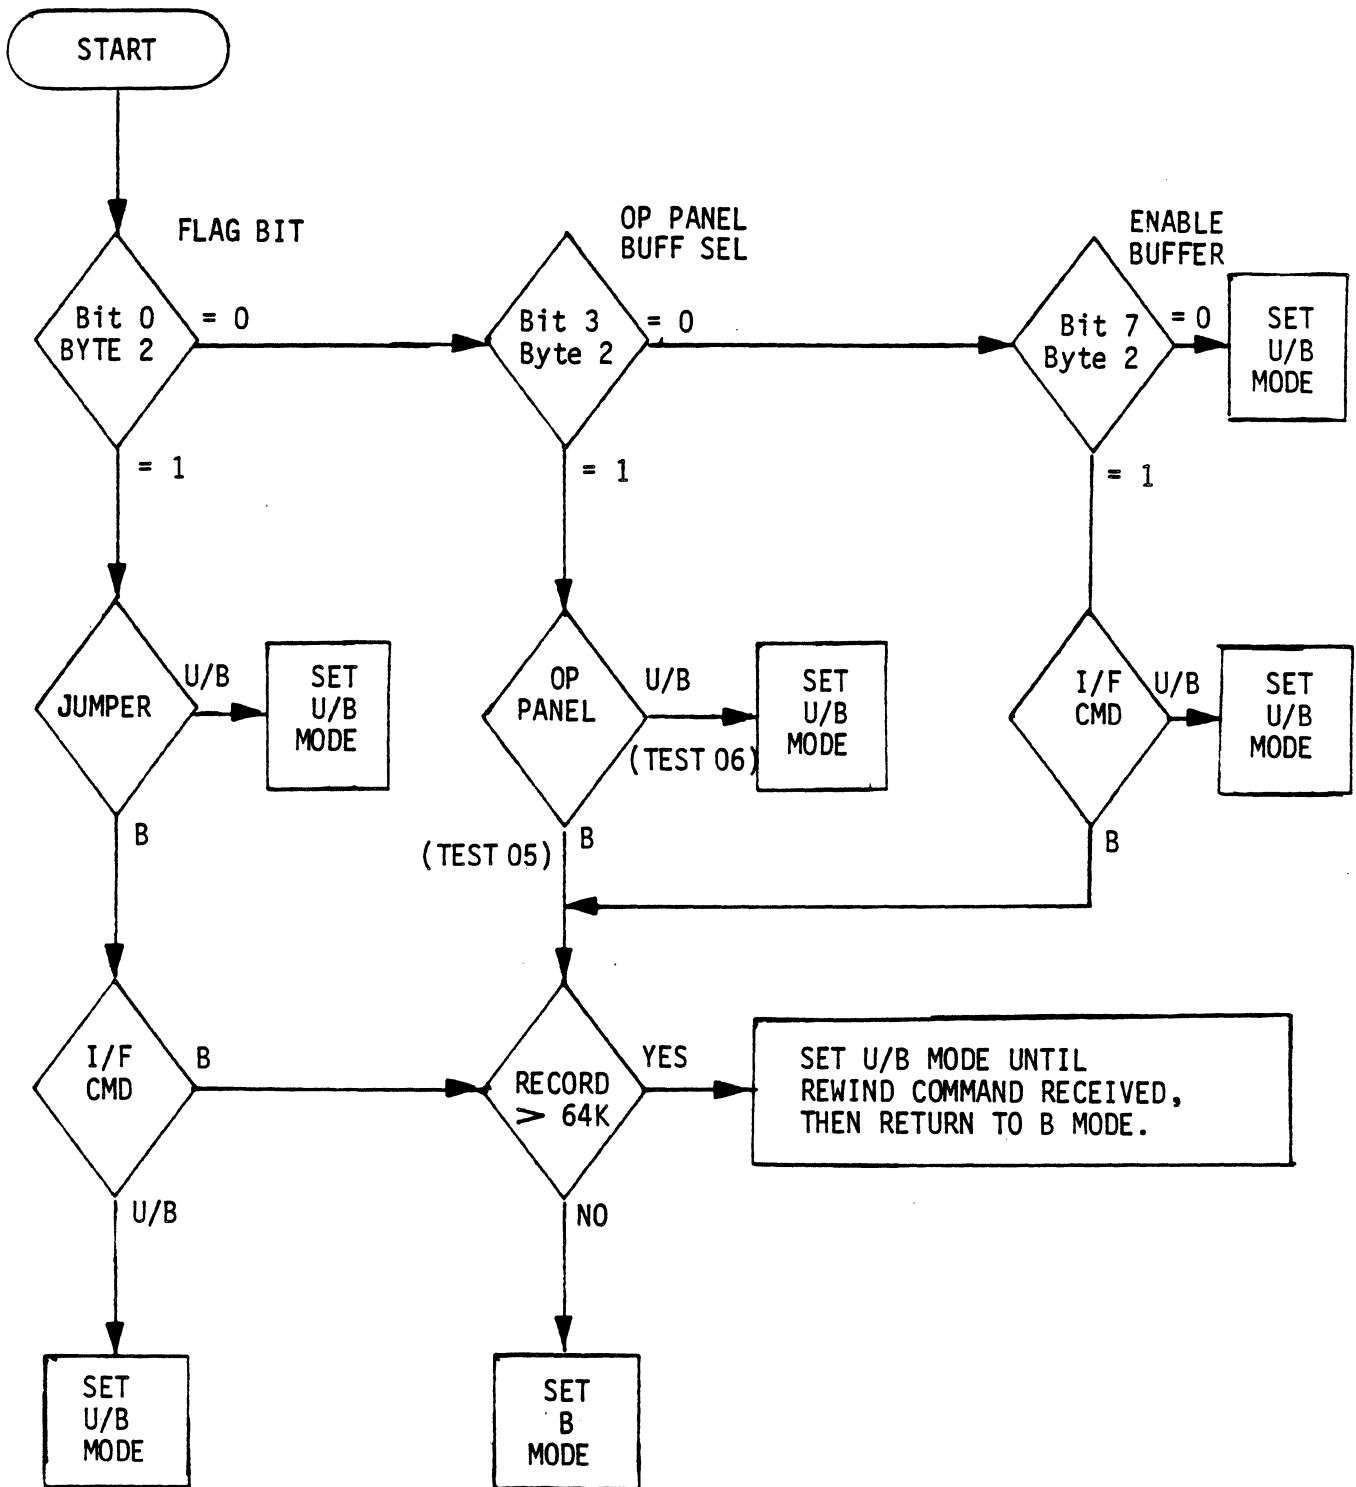

Figure 6-5B. Setting Buffered (B) or Unbuffered (U/B) Mode, Buffered STC Enhanced I/F
- c. For priorities in setting buffer enabled mode or buffer disabled mode, refer to figure 6-5B.